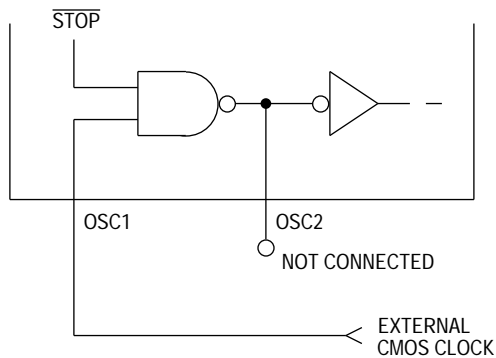

Figure 2-3. External Clock Connections
- An external clock signal (Refer to Figure 2-3)
An external clock from another CMOS-compatible device can drive the OSC1 input, with the OSC2 pin not connected, as Figure 2-3 shows.